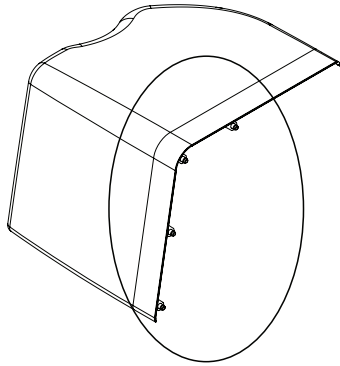
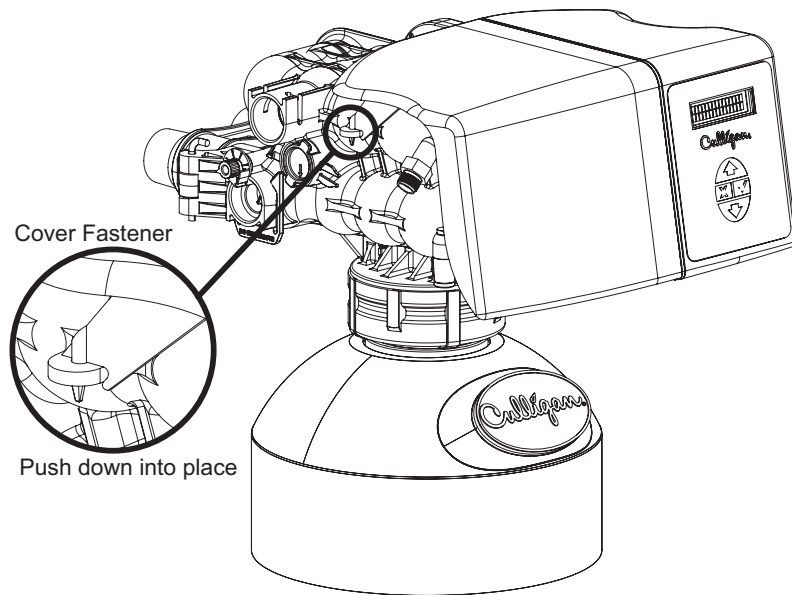

Figure 9. Cover fastener clip.
Figure 11. Reattaching the cover fastener.
Once the drain and brine line is connected re-attach the cover. Refer to the below instructions and Figure 9 through Figure 11.
1. Insert the two pins on the top of the cover into the two holes on top of the frame; the cover should be slightly angled. See Figure 9.
3. Attach the cover fastener onto the control valve. See Figure 11.